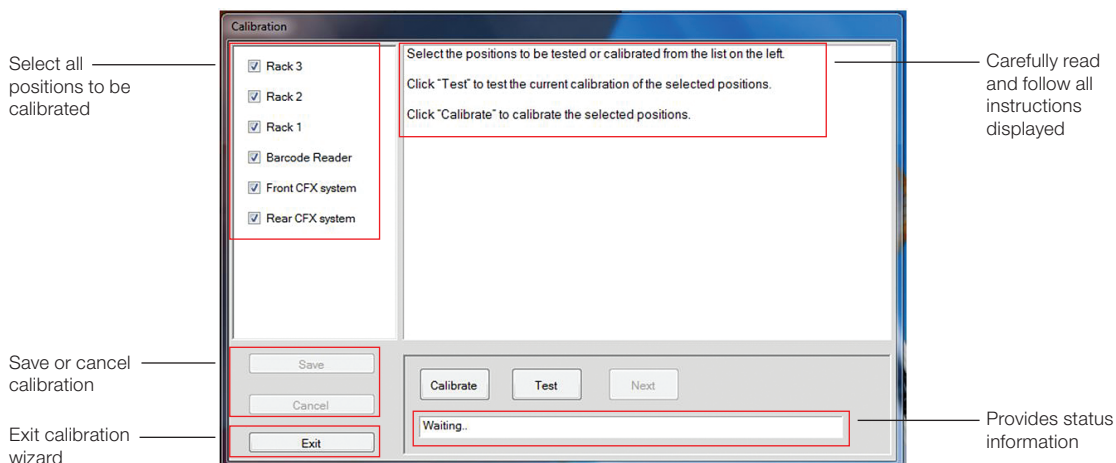

Fig. 15. Main calibration and test window.
2. The main calibration screen is displayed (Figure 15).